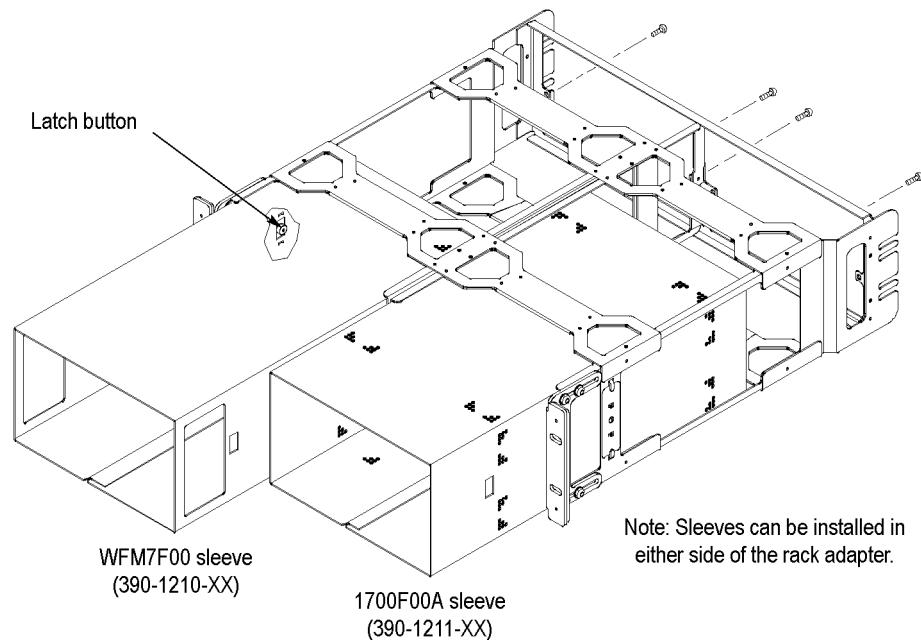

Figure 7: Installing the sleeves into the rack adapter. Only two sleeve types are shown in this example.
2. Slide the sleeve into the desired half of the rack adapter, depressing the button on the inside front of the rack adapter as needed to insert the sleeve. (See Figure 7.)